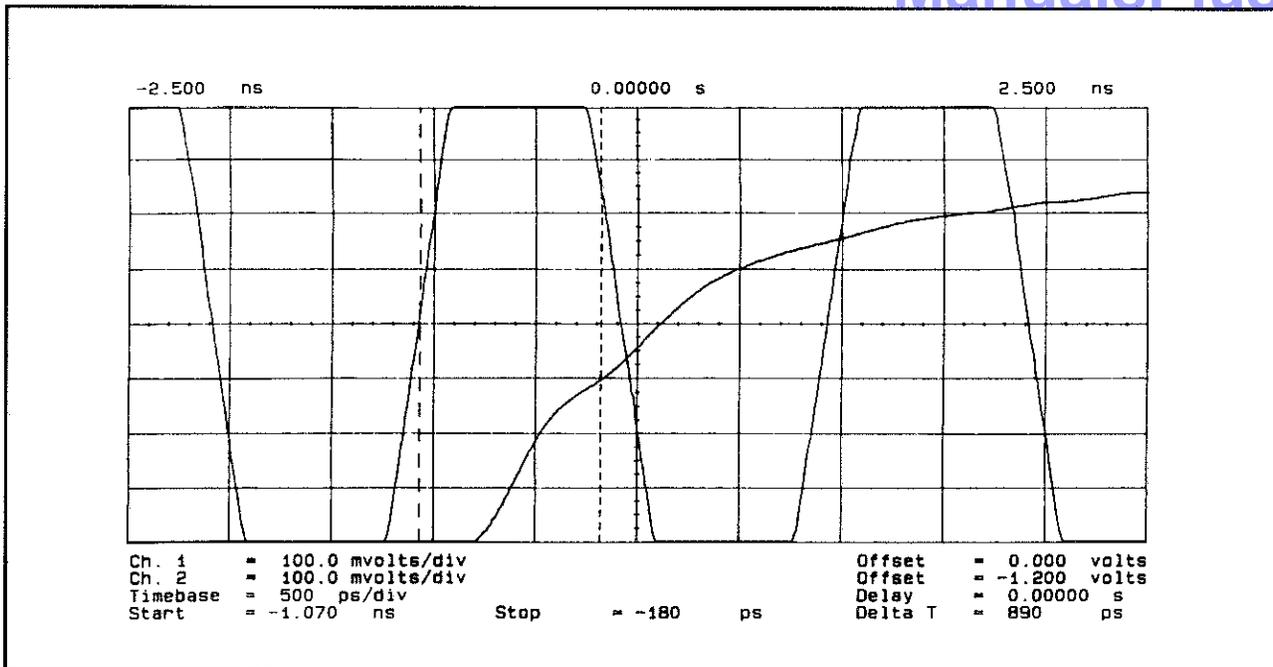

Figure 3-10. Oscilloscope Display of CI2 and CLKA
- B. The 54100A Oscilloscope displays the 500 MHz reference frequency (CLKA) on input channel 1, and the CI2 leading edge on input channel 2. The oscilloscope display should now be similar to *Figure 3-10*.
- O. The 54100A Oscilloscope should again display the CI2 and 500 MHz reference frequency (CLKA) signals as shown in *Figure 3-10*. Return to Step C. Repeat this process until until the measured time delay falls within limits listed in *Table 3-4*.